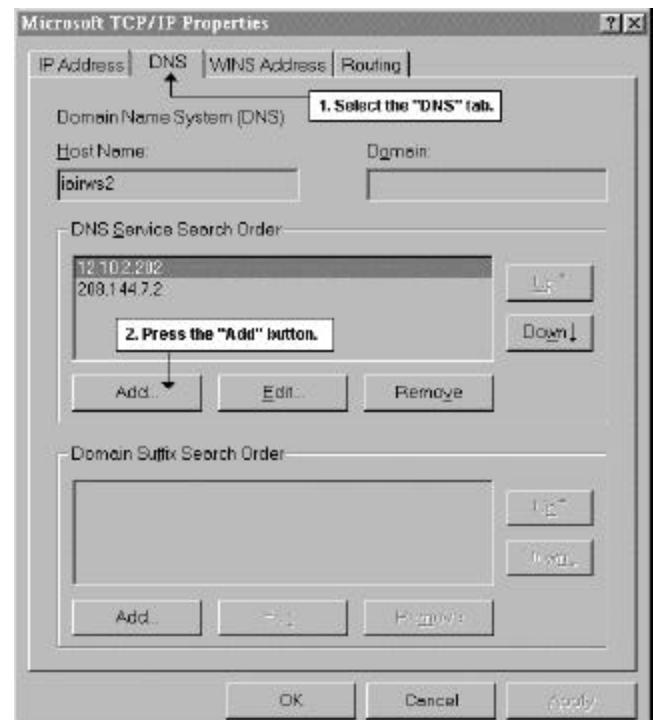

Figure 3-13 Windows NT
b.) For Windows NT®:(see Figure 3-13)